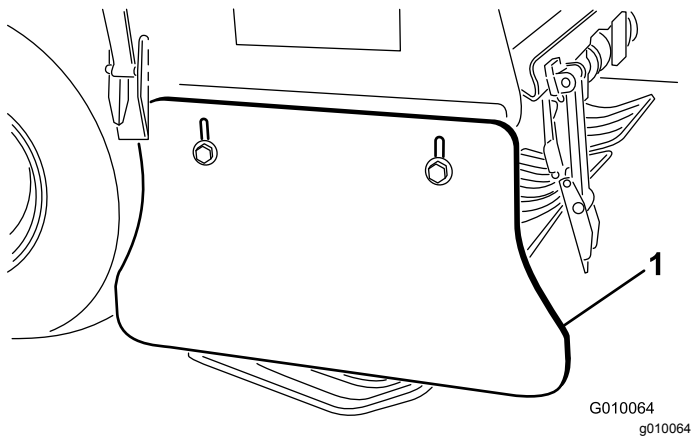

Figure 66
2. Loosen the bolts and nuts securing the side shield to frame (Figure 66).